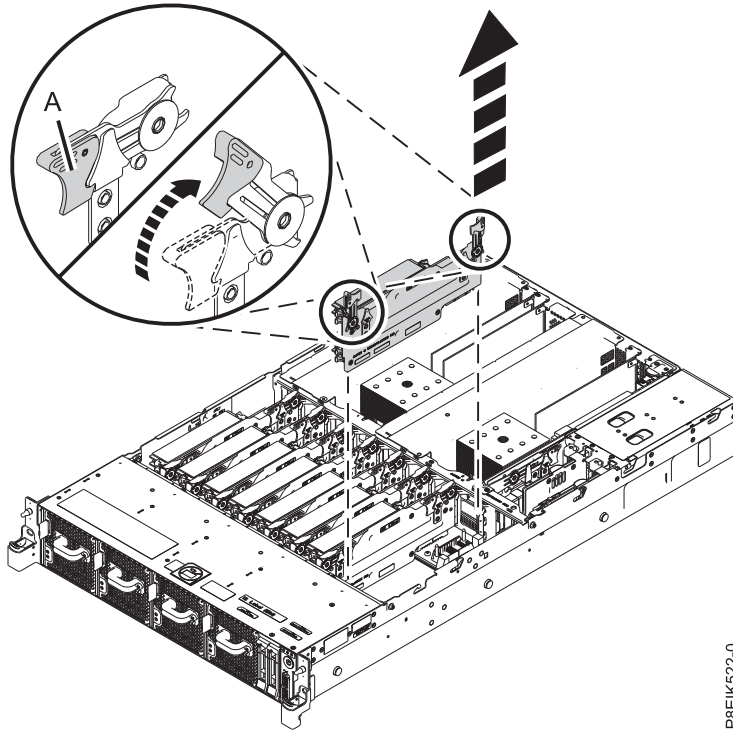

Figure 88. Removing a memory riser from the system
- a. Open the release latches on the memory riser. See (A) in Figure 88.